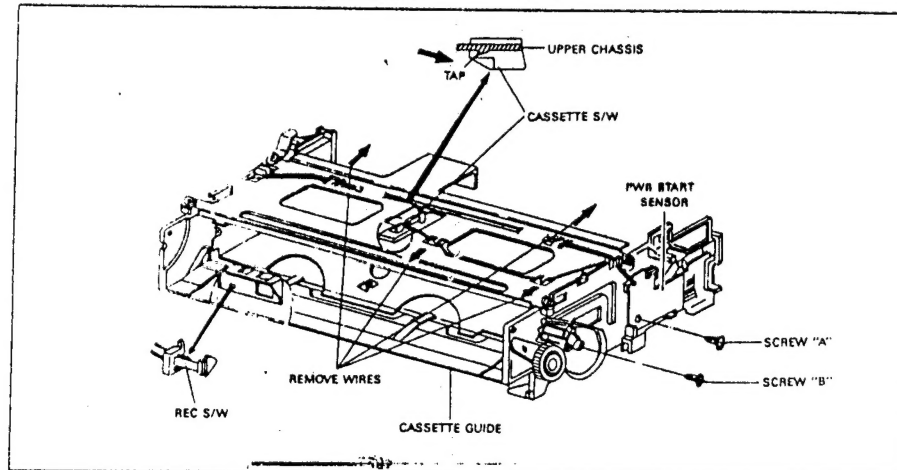

Fig. 15 REC S/W / Cassette S/W / Pwb Start Sensor / Side Arm (R) Removal
2. Remove REC S/W (Fig. 15)
4. Release the tab of the cassette S/W and remove the cassette S/W. (Fig. 15)
5. Pwb Start sensor removal (Fig. 15)
• After removing the screw (A) at the side chassis (R), disintegrate PWB start sensor.
6. Remove the wires. (Fig. 15)
8. After removing the screw (B), remove the side arm (R) (Fig. 15)